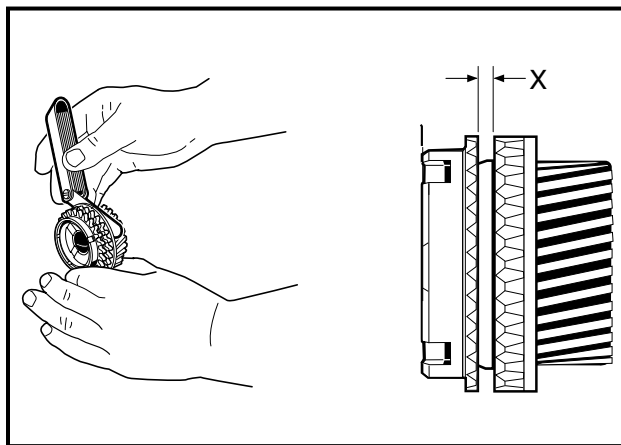

Figure 5-24 Synchronizer Ring
5. Using a feeler gauge, measure the distance X at several points around the assembly. The synchro ring should be replaced when X is 0.02 inch (0.5 mm) or less (**Figure 5-24, Page 5-14**).